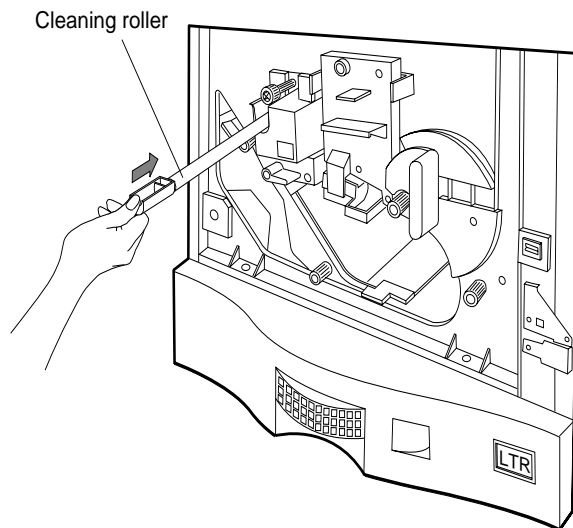

Figure 4-7 Inserting the Cleaning Roller
3. Insert the new cleaning roller until it clicks into place, as shown in Figure 4-7.